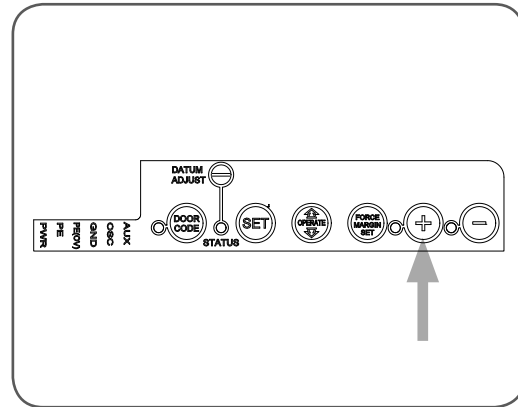

fig 57
- Press and hold the OPEN button (**Fig 57**) for six (6) seconds until the OPEN and CLOSE LED's are lit to record the new pet position.